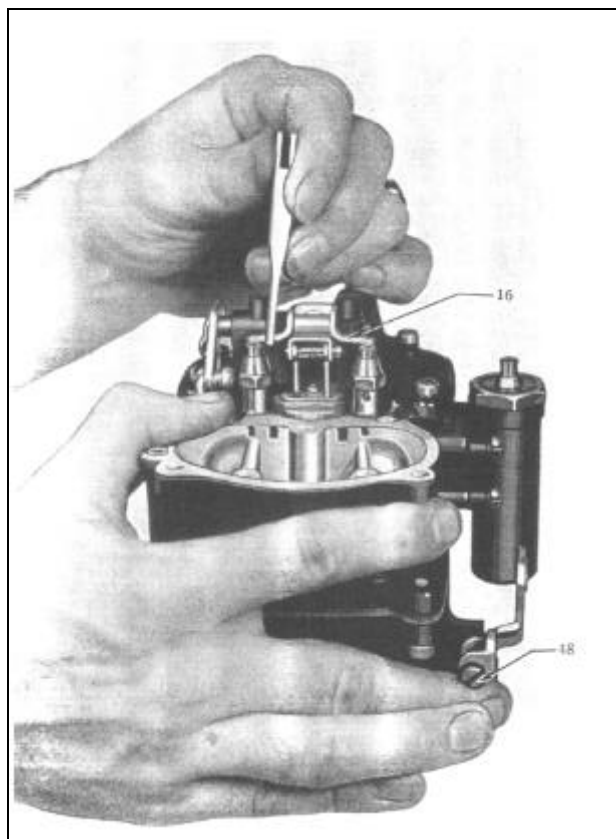

Figure 433
(143) Back out throttle lever adjusting screw (48) (Figure 433). Anti-percolator should be checked after metering rods setting and installation of metering rods on carburetor.
(145) With throttle valves tightly closed adjust lips (16) (Figure 433) on anti-percolator arm to depress anti-percolator stem so indicator line (on stem) is .015" above top of anti-percolator plug. Since there are two anti-percolator units on this carburetor, great care must be taken so that an even adjustment is made on both lips. Use bending bar included in
Tune-up Kit as shown in Figure 433, while holding throttle closed.
(155) Remove two thermostat housing attaching screws (B) and lock washers (C) and thermostatic coil and housing assembly (A) (Figure 433).